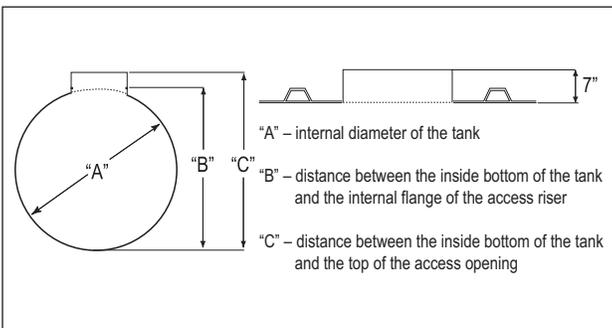

FIGURE 11-1
11.1.2. Refer to FIGURE 11-1 along with TABLE 11-1 to determine the correct dimensions for sizing internal piping.